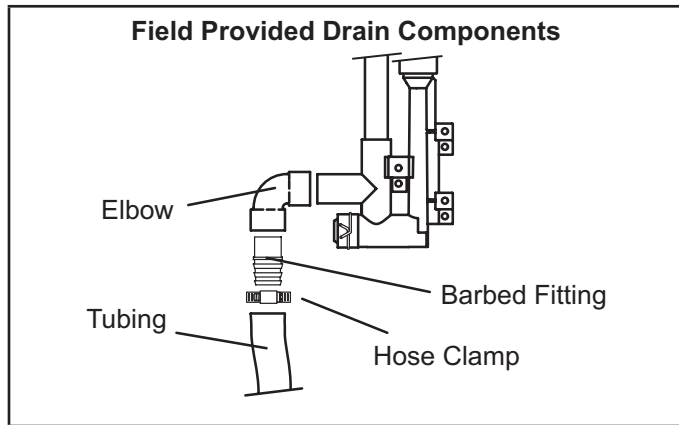

**FIGURE 41**
This unit is designed for either right- or left-side exit of condensate piping. Refer to FIGURE 41 and FIGURE 43 for condensate trap locations.
- 2 - For furnaces with a 1/2" drain connection use a 3/8 allen wrench and remove plug (FIGURE 41) from the cold end header box at the appropriate location on the side of the unit. Install field-provided 1/2 NPT male fitting into cold end header box. For furnaces with a 3/4" drain connection use a large flat head screw driver or a 1/2" drive socket extension and remove plug. Install provided 3/4 NPT street elbow fitting into cold end header box. Use Teflon tape or appropriate pipe dope.